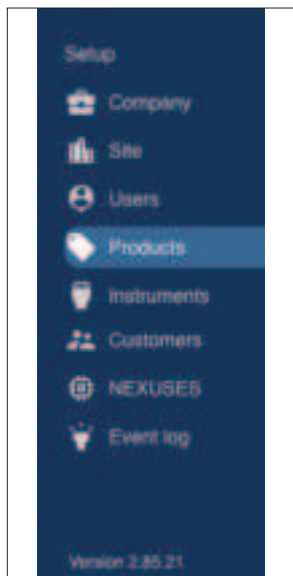

Figure 10 SKALA Main Menu
2. Select Products from the SKALA Main menu to open the Product groups page (Figure 10).